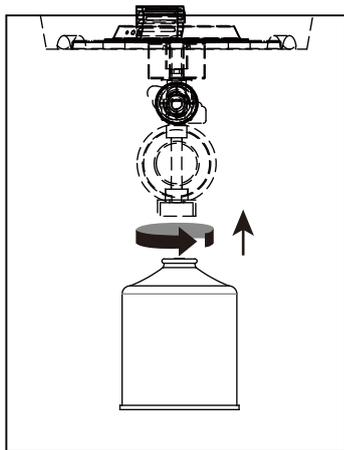

Figure 2
- (1). Before connecting, be sure there is no debris caught in the head of the burner or burner or burner ports.
- (2). Make sure the control knob is in the “OFF” position. Lubricate the threads of the regulator with petroleum jelly.
- (3). Line up threads on the gas cylinder with regulator.
- (4). Insert the gas cylinder.
- (5). Rotate the cylinder clockwise until they fit snugly together. **HAND TIGHTEN ONLY.** Be careful not to cross thread when screwing in cylinder (see Figure 2).
- (6). Perform leak test per “Checking for Leaks” section.